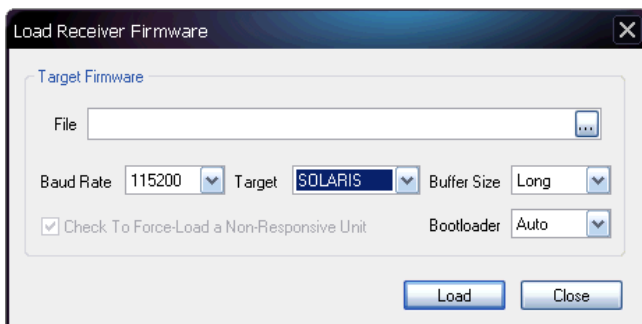

Figure 21: Load Receiver Firmware
40. Click  and the *Load Receiver Firmware* dialog box opens (see Figure 21).